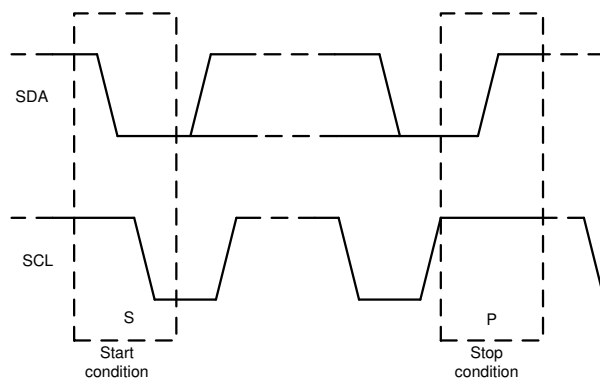

Figure 6-21. Start and Stop Conditions
1. The controller initiates data transfer by generating a start condition. The start condition is when a high-to-low transition occurs on the SDA line while SCL is high, as shown in Figure 6-21. All I²C-compatible devices recognize a start condition.
4. To signal the end of the data transfer, the controller generates a stop condition by pulling the SDA line from low-to-high while the SCL line is high, as shown in Figure 6-21. This action releases the bus and stops the communication link with the addressed target. All I²C-compatible devices recognize the stop condition. Upon receipt of a stop condition, the bus is released, and all target devices then wait for a start condition followed by a matching address.